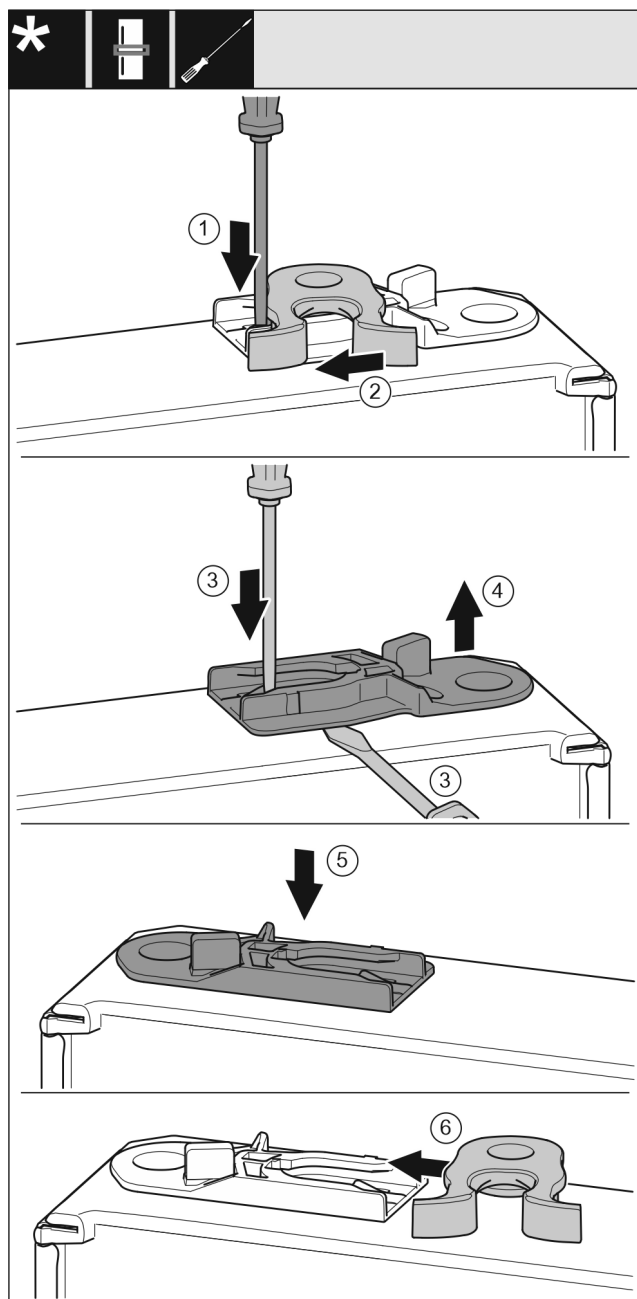

Fig. 20
- Use a slotted screwdriver to push the tab *Fig. 20 (1)* downwards.
- Pull the closing hook *Fig. 20 (2)* out of the guide.
- Pull out the guide bush *Fig. 20 (3, 4)*: Press the tab with a flat-blade screwdriver and at the same time move the flat-blade screwdriver under the guide bush.
- Insert the guide bush *Fig. 20 (5)* supplied on the other side of the housing.
- Slide the closing hook *Fig. 20 (6)* into the guide.